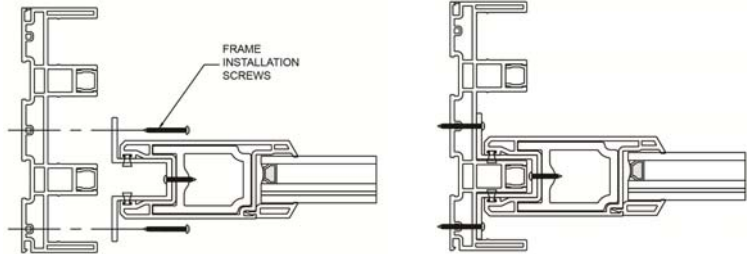

Figure 24b
25. Secure the fixed panel clip to the frame jamb using six (6) frame installation screws (Figure 24b).